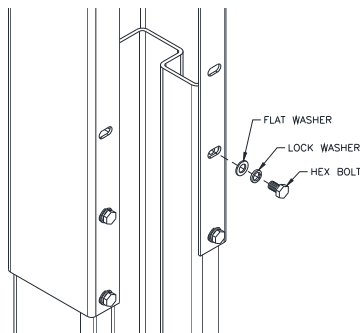
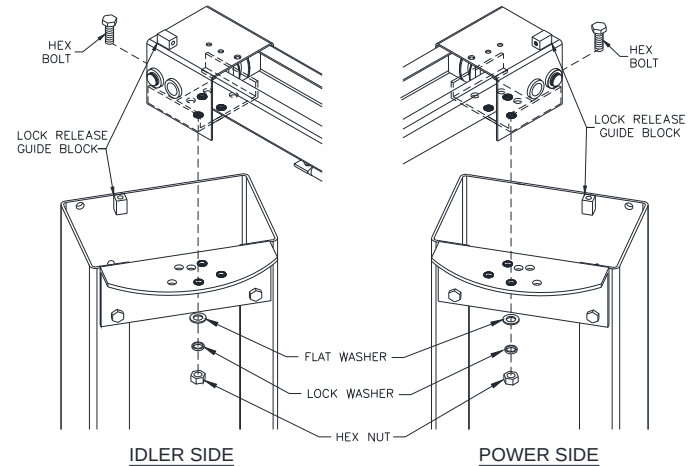

Fig 2 - Column Extension
Fig 10 – Asymmetric Overhead Mounting
- With columns still horizontal, assemble Power Column Extension to Power Column using (8 sets) M12 x 20 Hex bolts, flat washers, and lock washers. The (2) Column Extensions are not identical. **IMPORTANT: The Lock Release Guide Block at top of Column Extension should be in-line with Lock Release Pulley in Column.** See Fig 10 for Clarification. For the tall height setting, use bottom holes as shown in Fig 2. For the short setting, use the upper holes. Repeat for opposite Idler Column and Idler Column Extension.
- 20) Place the Overhead on top of the mounting brackets on Column Extensions and bolt together using (3 sets) M12 x 25 Hex bolt, nut, flat washer, and lock washer. Hand-tighten bolts to allow for column adjustment if needed. Use the holes highlighted in **Fig 10** below.